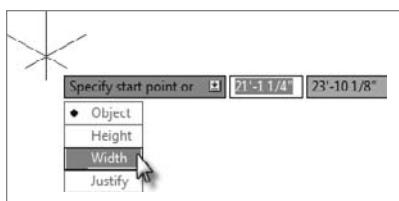

FIGURE 16.13 Choosing the Width option from the context menu
4. Press the down arrow on the keyboard to expose the context menu at the cursor, and then click the Width option, as shown in Figure 16.13.